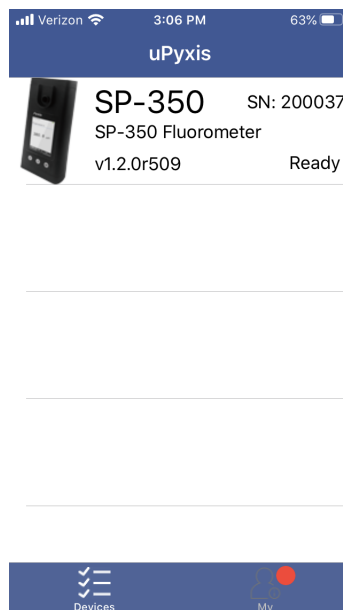

Figure 20.
4. If the connection is successful, the SP-350 and its Serial Number (SN) will be displayed (Figure 20).